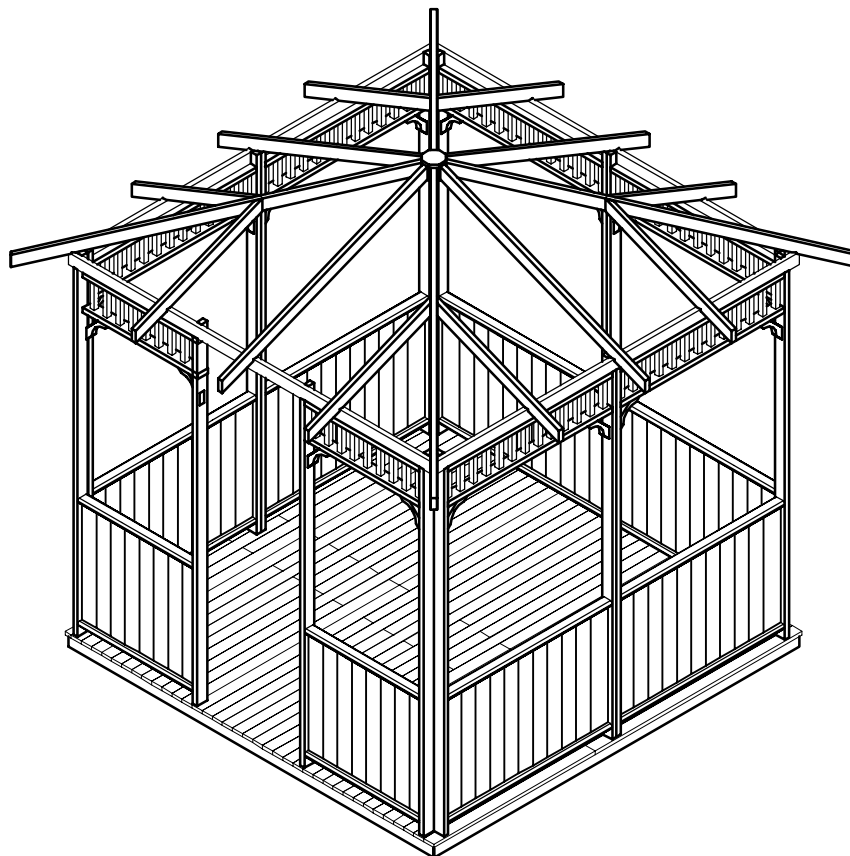
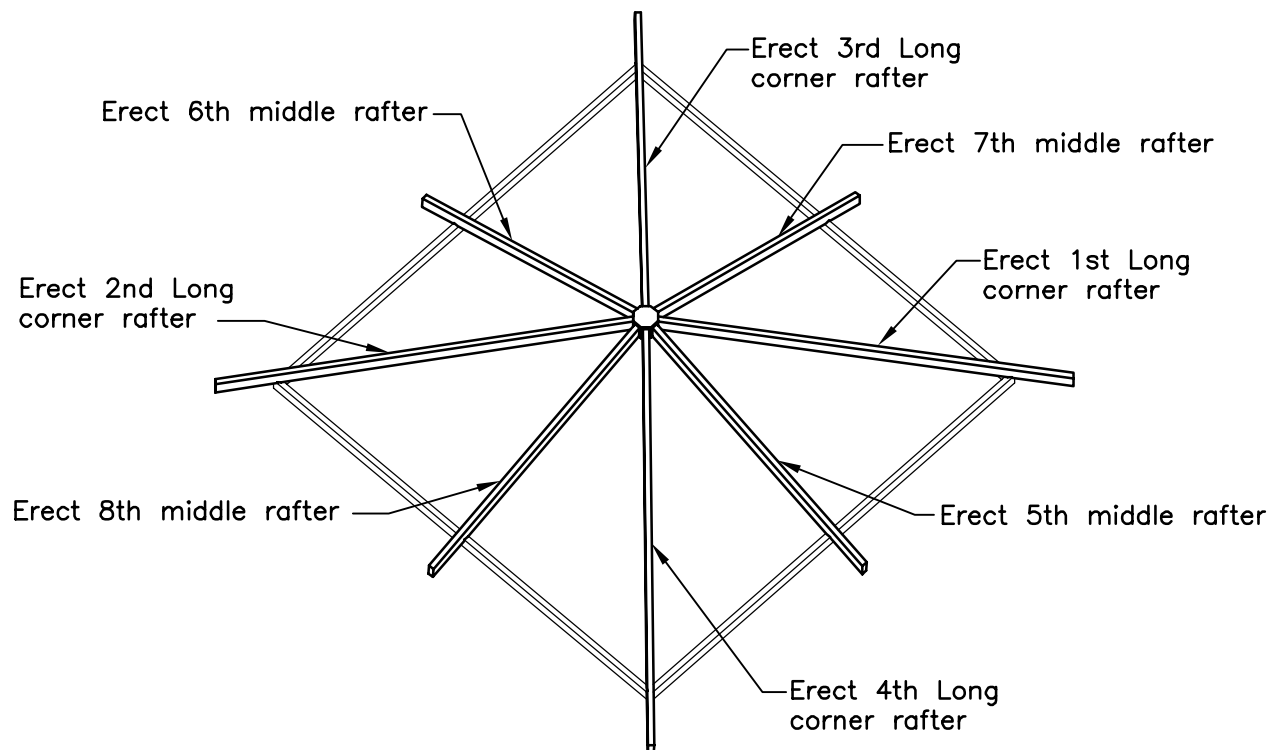

FIGURE S21
FIGURE S22
- Place the corner rafter over top of the wall section corner. Toe nail using screws the rafter to header. See Figure S21. Toe nail the short rafters to the header and nail the top of each short roof rafter to the corner rafters using 3 inch screws. See Figure S22 for completion of rafter system.
- Once the first rafter is up, attach the rafter on the opposite corner. See Figure S22 for the proper sequence. Erect and secure all rafters as shown.